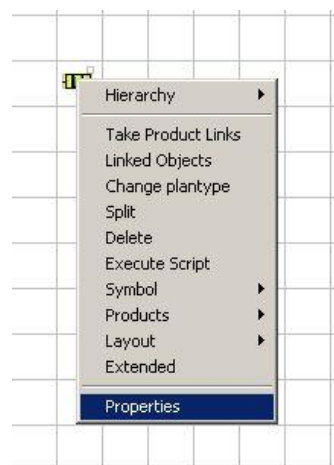

Figure 92: Opening Properties Dialogs using the Context Menu
- 3) Press the right mouse button and click **Properties** (*Please refer to the Figure 92. If you want to open the extended menu, click **Extended**.*